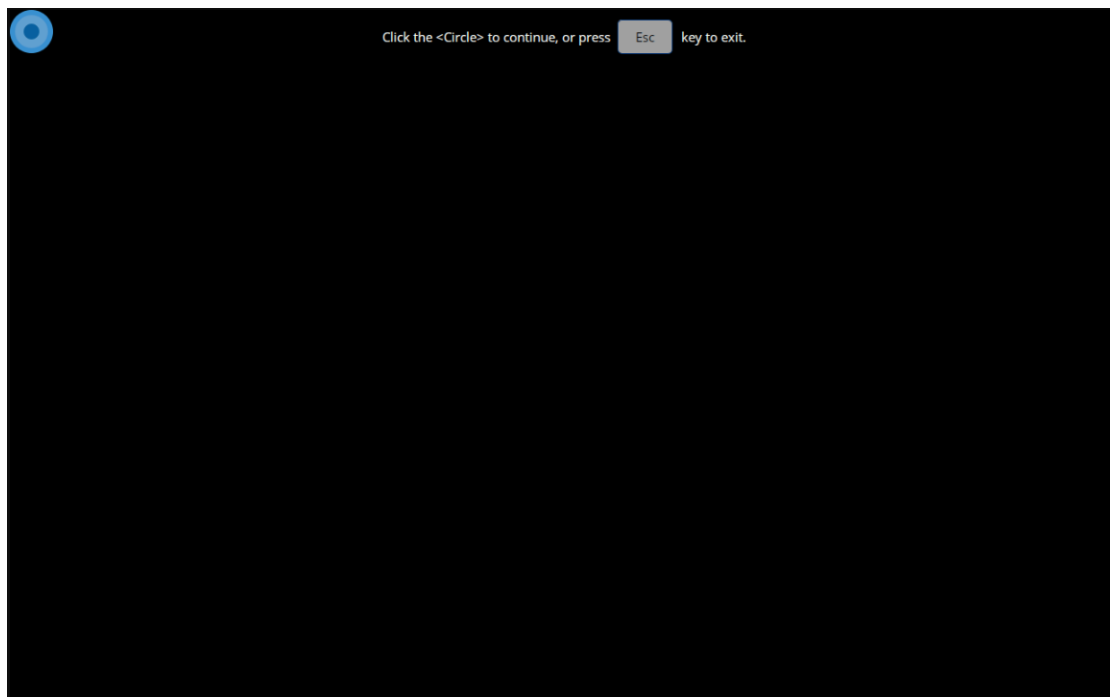

Figure6-6 Front panel touch test box
2. Press UTILITY **System** key, then Self Test, then touch Test.... A Front Panel Key Test Box will be displayed, as shown in Figure 6-6